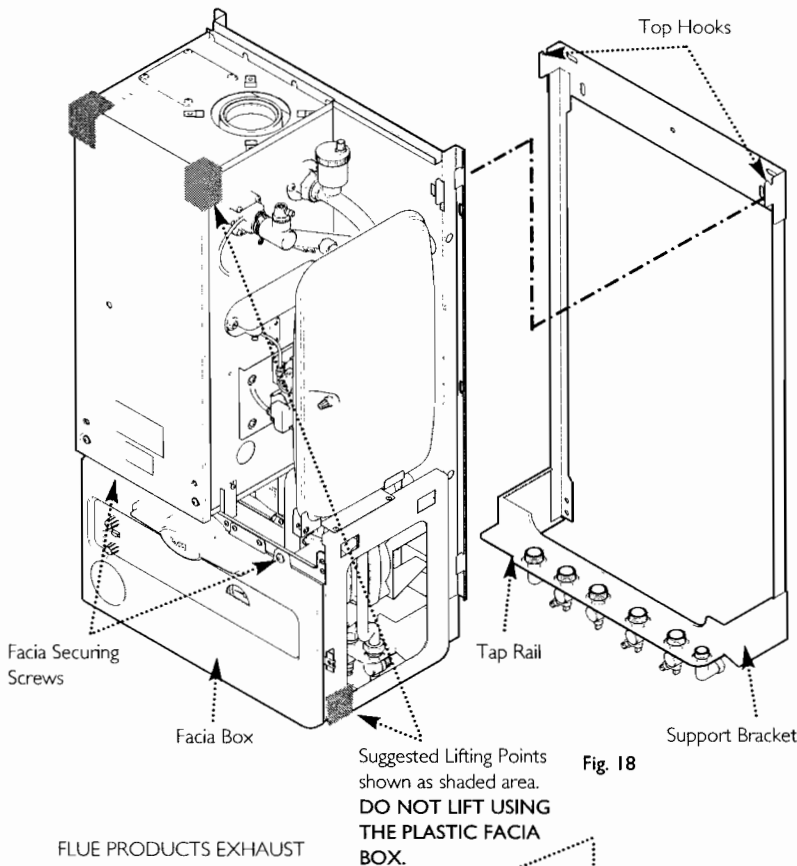

Fig. 18
8.4 Fitting The Boiler (Fig. 18)
2. Lift the boiler over the support bracket using the lifting points shown in Fig. 18 and engage onto the top hooks (see Lifting paragraph page 4).
NOTE: When installing in Loft/Small Compartment access for lifting the boiler from the front can be gained for two people using the lifting points (Fig. 18).